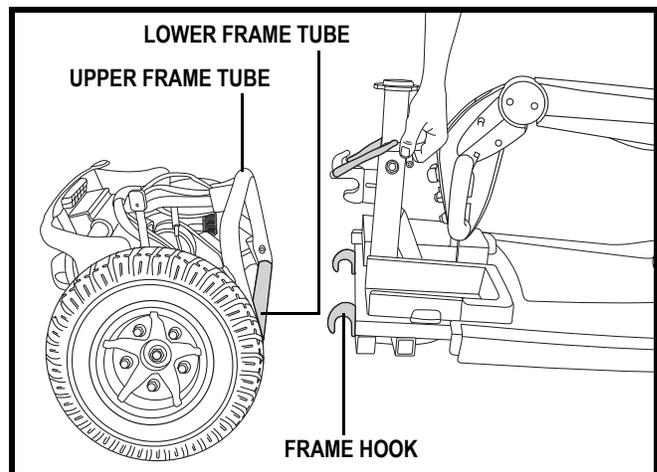

Figure 24. Frame Separation
3. Lift the front section up until the frame hooks of the front section separate from the rear section. See figure 24.
NOTE: Stabilize the rear section with your free hand by holding onto the upper frame tube. See figure 24.
4. Slowly separate the two sections. See figure 24.
1. Position the front and rear sections of your scooter as shown in figure 24.